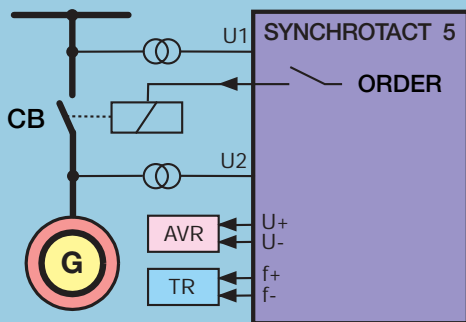

Fig. 1: Automatic synchronizing and paralleling
1. Automatic synchronization and paralleling of generators with power lines (see Fig. 1 below),